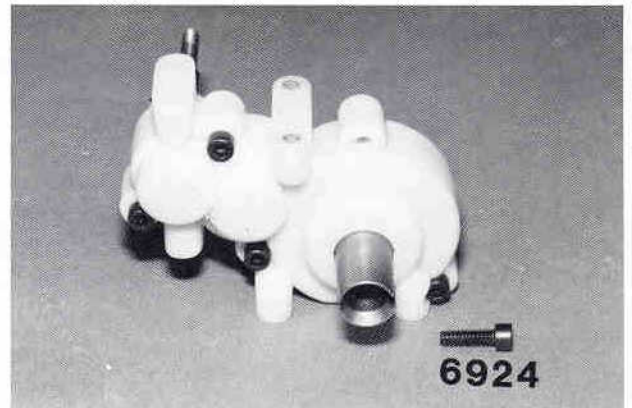

Fig. 81
□ **Fig. 81** Open bag F and remove five #6924 4-40 x 3/8" SHCScrews. With the left hand case half mounted over the gears making sure that each gear fits correctly into the appropriate bearing or bushing, install the five #6924 screws into the left hand case half and thread them into the right hand case half. Go ahead and tighten down all five screws but don't overtighten them. Now check to see if all the gears turn freely by spinning the diff assembly.